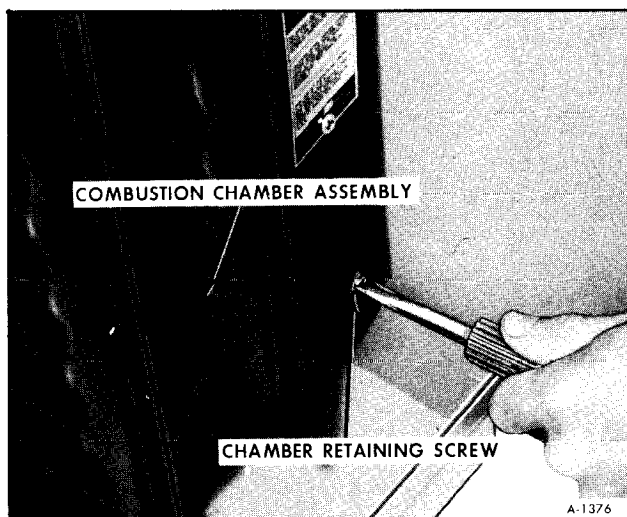

Figure 8—Removing Chamber Retaining Screw
4. Remove the screw securing chamber to cabinet (lower right corner) as shown in Figure 8.
3. Install screw securing chamber to cabinet (lower right corner) (figure 8).